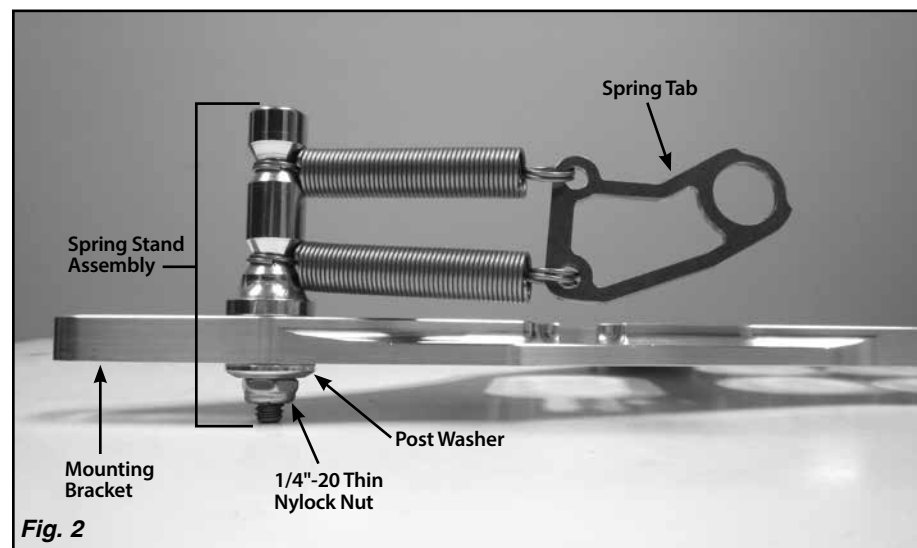

Fig. 2
Step 1: Remove the 1/4"-20 thin nylock nut and the post washer from the spring stand assembly. Install the spring stand with the springs and throttle tab onto the top side of the throttle cable mounting bracket, into the slot at the front left corner. Install the post washer (beveled edge out) and 1/4"-20 thin nylock nut on the bottom. **Fig. 2**